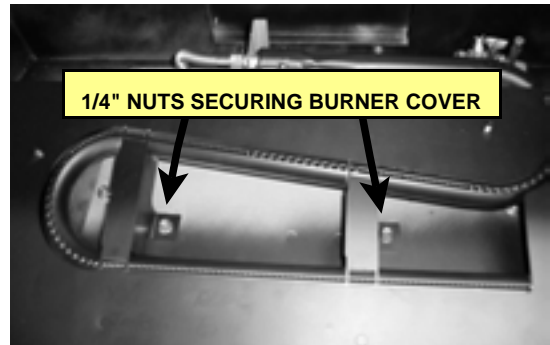

Figure C-2
- A) Loosen and remove the (2) nuts securing the burner cover. Remove the burner cover by lifting the front of the cover up, then carefully slide the burner tube off the orifice. Remove entire assembly from the firebox. Figure C-2.